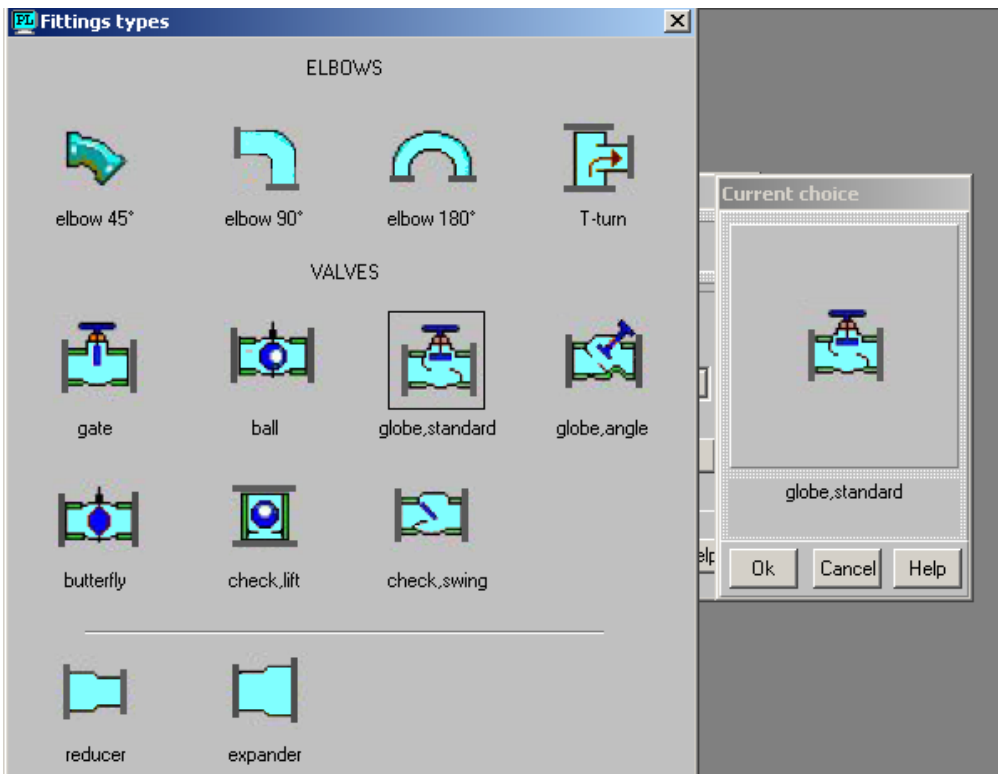

Figure 12.
- Select necessary fitting or valve from the graphic selection screen (Figure 12). To do it, click the corresponding icon, and the selected figure will arrive in the **Current choice** screen. Confirm selection with **OK**.